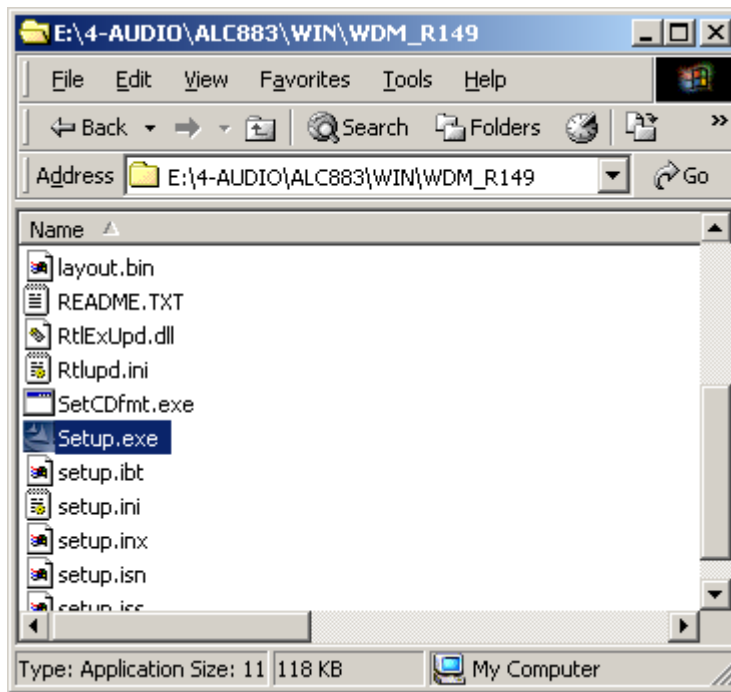

Figure 7-45: Locate the Setup Program Icon
Step 6: Double-click the **Setup.exe** program icon in Figure 7-45.